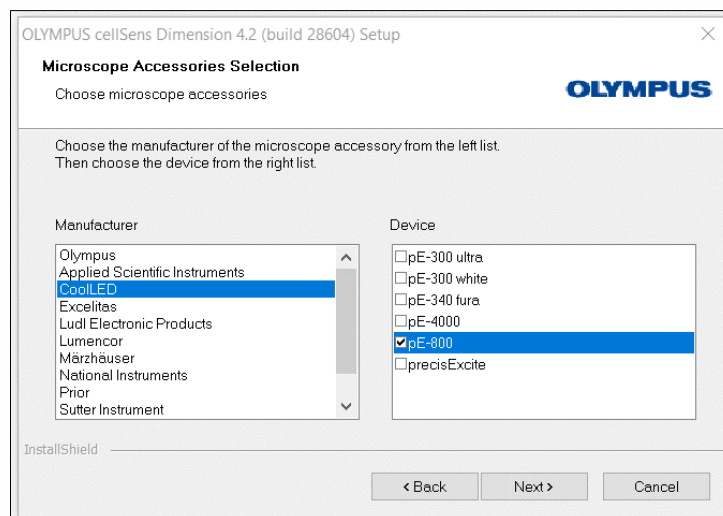

Figure 1: CoolLED devices listed in 'Microscope Accessories Selection'
1. During installation and setup of cellSens, when the 'Microscope Accessories Selection' screen appears (Figure 1), locate CoolLED in the 'Manufacturer' list and select the pE-800.
- 1.1. To modify an existing cellSens installation, run the cellSens setup.exe file and modify the installation. Following the instructions will lead to the window shown in Figure 1, where the pE-800 can be selected.